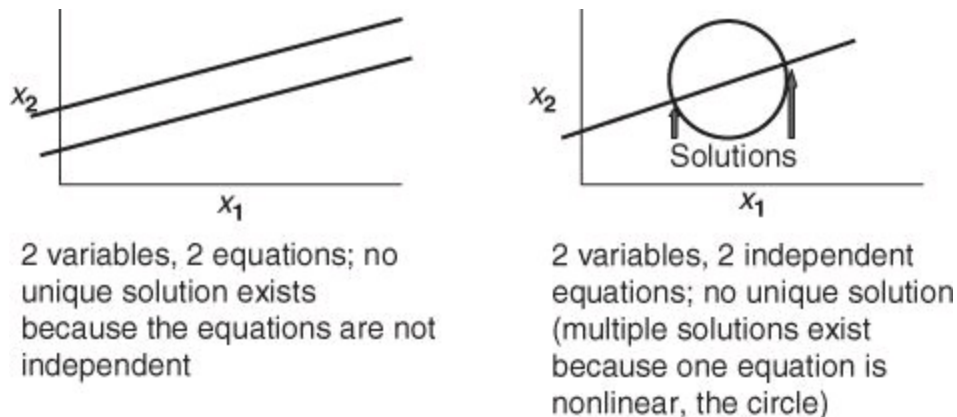

Figure 3.7. Illustrations of independent and dependent equations
1. What does the term independent equation mean? You know that if you add two independent equations together to get a third equation, the set of three equations is said to be *not independent*; they are said to be dependent. Only two of the equations are said to be independent because you can add or subtract any two of them to get the third equation. Figures 3.7 and 3.8 illustrate some examples of independent and dependent equations. Chapter 12 explains in considerably more detail what independence means.